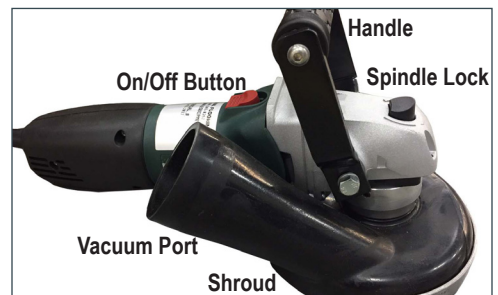

FIG. 2
The vacuum port is attached to the shroud (Figure 2). Use a vacuum hose that snugly fits either on the outside or the inside of the port. The outside diameter of the port is 2"; the inside diameter is 1-3/4". This port will pick up dust but not all heavy or large particles.
There are two additional handle options: a single side handle and one that is connected on both sides of the machine (Figure 2). Always have one of these handles connected while using the machine. Handles are interchangeable and can be used or changed as needed. Both handles must be screwed in manually; with the largest side opposite the vacuum port. Unplug machine from power source before changing the handle.
The machine is also equipped with a spindle locking device (Figure 2). Never turn on the machine while the spindle lock is engaged. Allow machine to come to a complete stop before engaging spindle lock.
1. Press the spindle lock (Figure 2) to stop the spindle from rotating while tightening and loosening the blade nut.